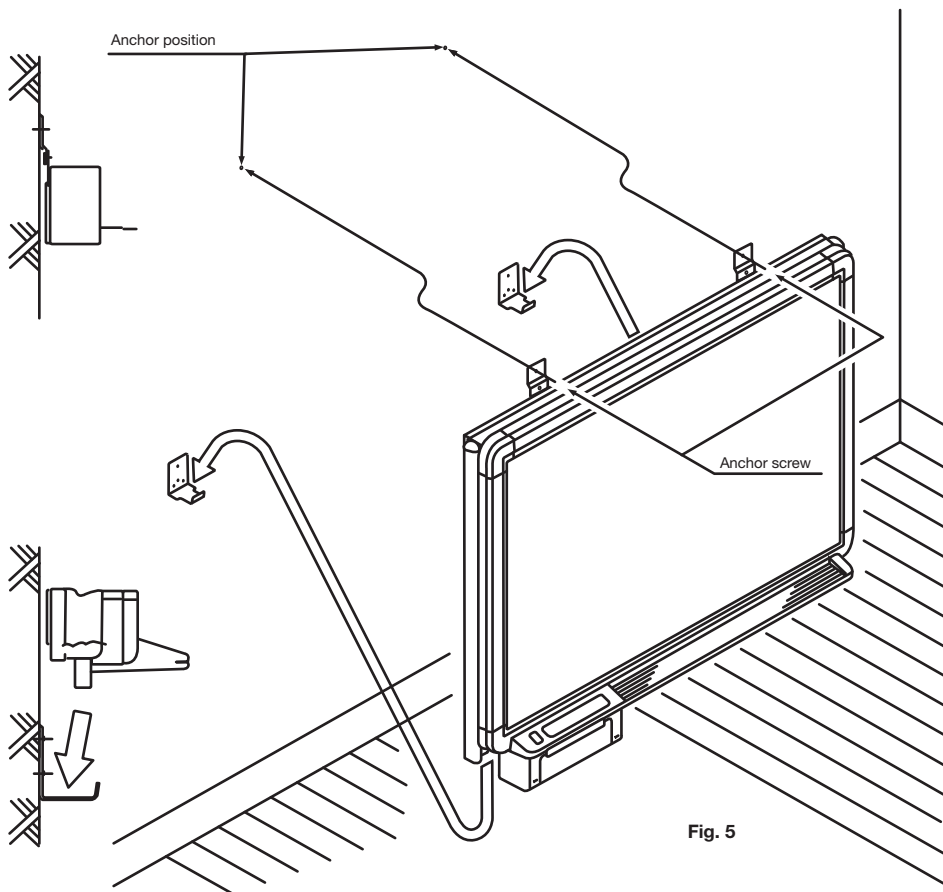

Fig. 5
5. Mark the board plate fitting hole positions on the wall. (Fig. 5)
6. Place the copyboard on the lower brackets and fit the upper brackets to the wall. (Fig. 5)